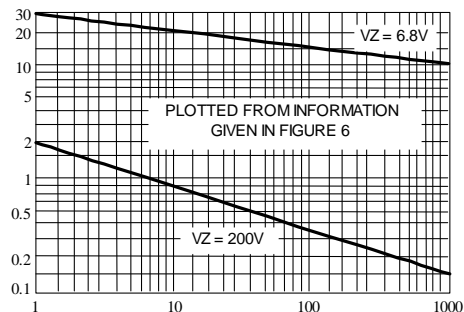

Fig. 6-PEAK SURGE CURRENT VERSUS PULSE WIDTH(SEE NOTE 3)
3. SURGE CURRENT (I_r) - Surge current is specified as the maximum allowable peak, non-recurrent square-wave current with a pulse width, PW, of 8.3 ms. The data given in Figure 5 may be used to find the maximum surge current for a square wave of any pulse width between 1 ms and 1000ms by plotting the applicable points on logarithmic paper. Examples of this, using the 6.8V and 200V zeners, are shown in Figure 6. Mounting contact located as specified in Note 3. ($T_A=25^\circ\text{C}$).